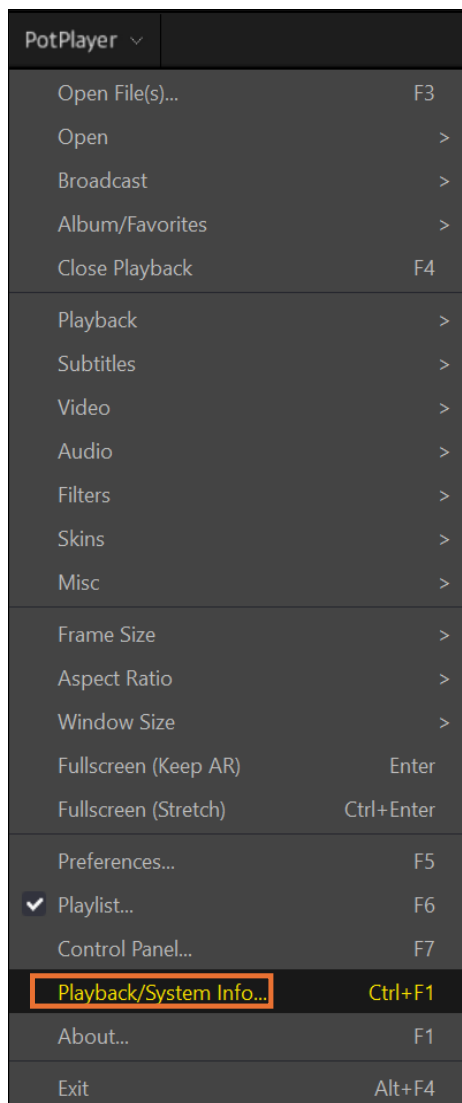
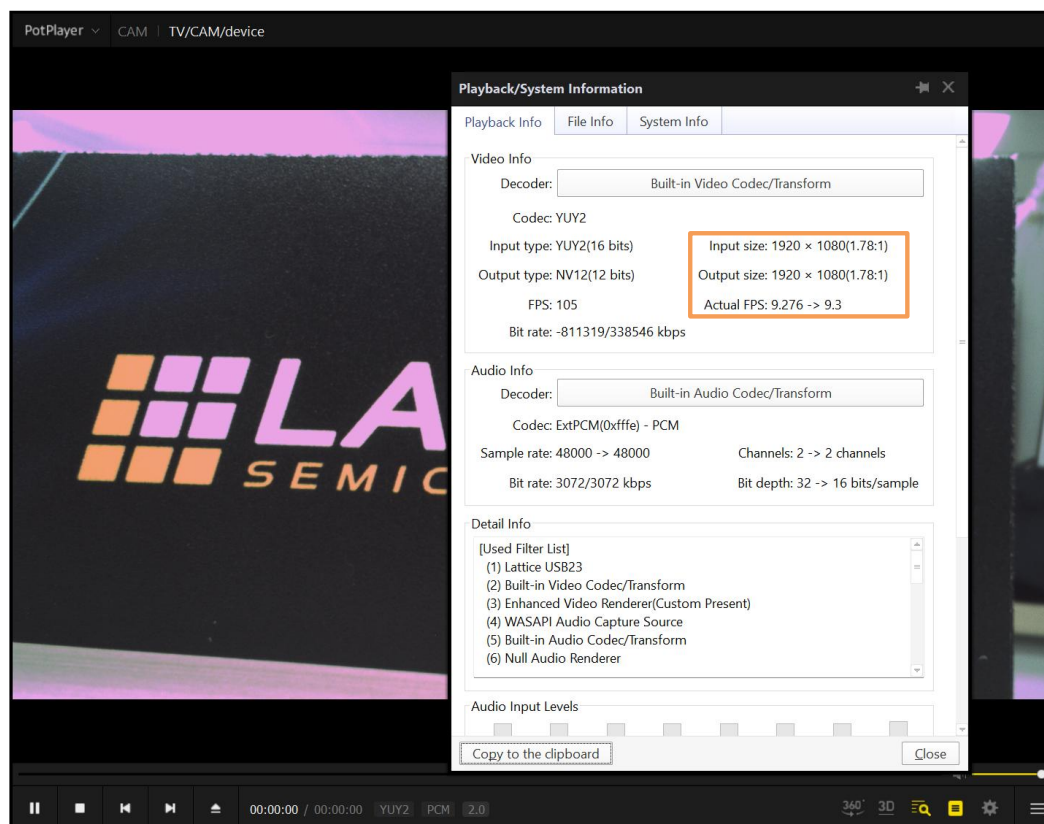

Figure 6.17. Playback/System Info...
Figure 6.18. Example of Video Information
6. To view the frames per second (FPS), either press the shortcut Ctrl+F1 or click **PotPlayer > Playback/System Info...**, as shown in Figure 6.17. An example of the video information is shown in Figure 6.18.